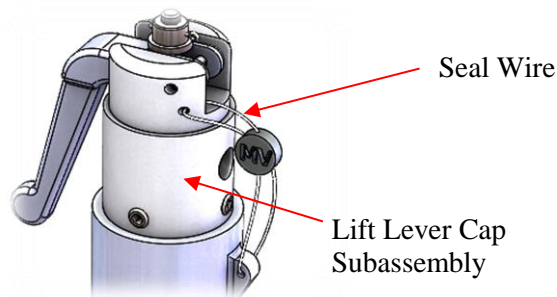

Figure 12: 1400 Series with a Lift Lever
1. Cut and remove the seal wire. See Figure 12.